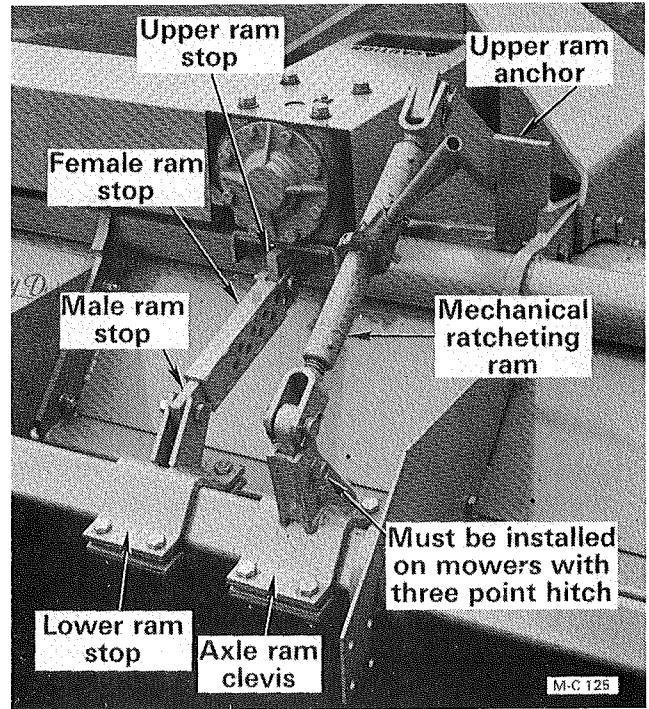

Figure 12
5. On lift type mowers equipped with a rear axle kit, be sure to secure the axle ram clevis floating link so that the axle cannot rotate when the mower is lifted. Use a $\frac{5}{8}$ -11 x 2 $\frac{1}{2}$ " (Grade 5) hex-head capscrew, lockwasher and hex-nut, see Figure 12.